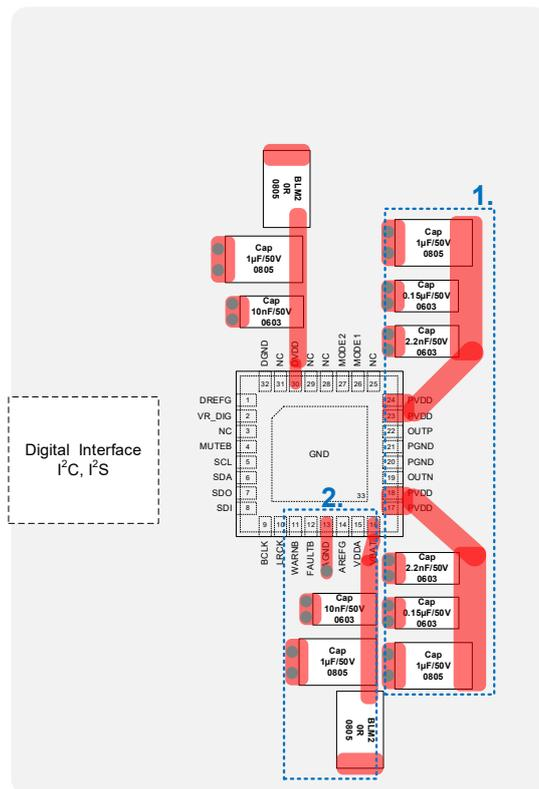

Figure 16. Layout Guide (Top Layer)
- Pins 17, 18, 23, and 24 are PVDD power pins for the Class-D amplifier. Place the filter capacitors as close as possible to the PVDD pins, and use the shortest possible traces for connection. Capacitors with smaller capacitance values should be placed near the PVDD pins. To minimize parasitic inductance and resistance, use multiple vias to connect these capacitors directly to the main ground. The optimal approach is to use vias that are directly connected to the Main GND. Ensure that these vias are isolated to prevent unintended connections with other ground planes, as illustrated at position 1 in Figure 16.
- The ground associated with the VBAT pin is defined as AGND. The AGND pin trace should first connect to the ground terminal of the capacitor, then use a via to connect to the Main GND. The VBAT pin must use a star connection to reduce power noise, as indicated at position 2 in Figure 16.